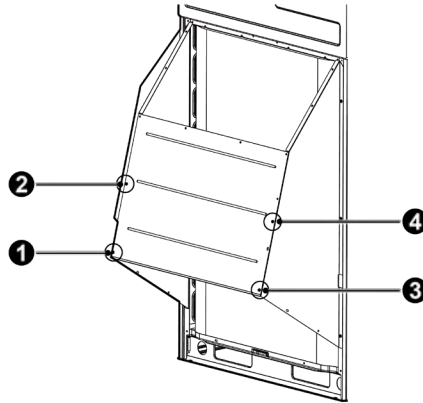

Fig. 3.11
Step 2: installation of Left Plate 2. Please refer to Fig 3.11 for the installation location and sequence of screws.